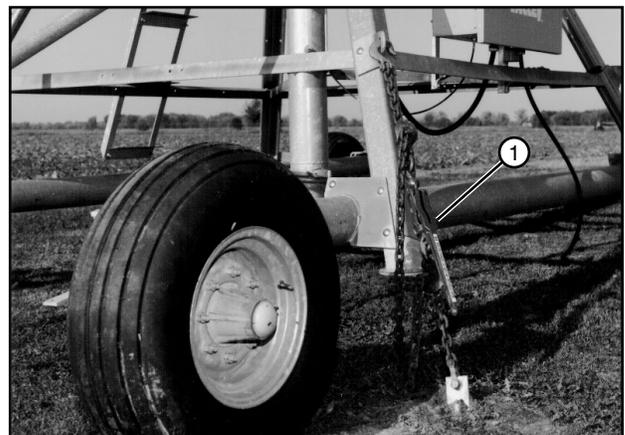

Figure 45-2 1. Load Binder
15. Attach and tighten the load binders at each corner of the pivot. See figure 45-2.